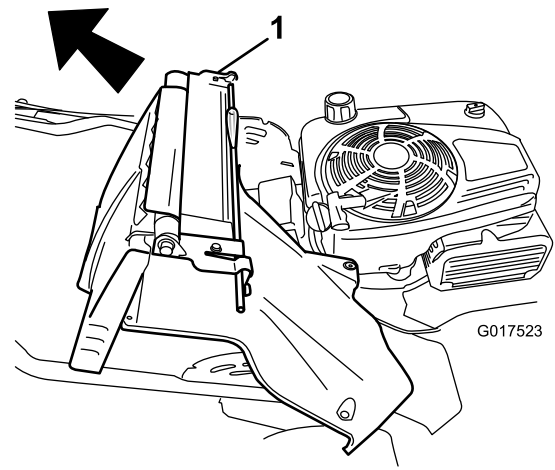

Figure 36
7. Remove the rear-deflector and handle-lock lever assembly (Figure 36).